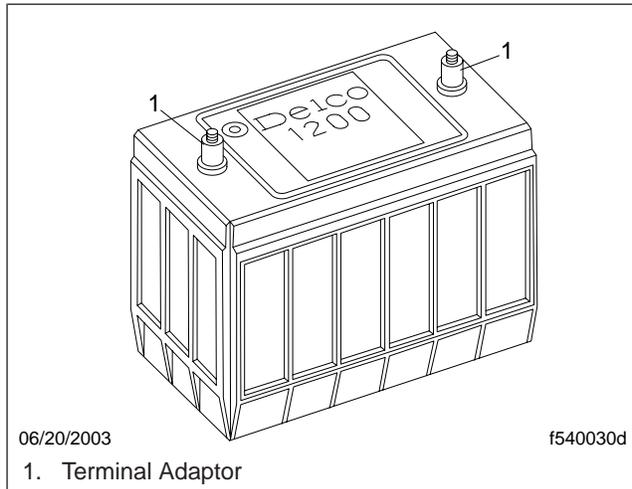

Fig. 3, Sealed Battery
3. Connect the tester leads to the battery terminals following the tester manufacturer's instructions. Batteries with sealed terminals require adaptors to provide a place for attaching the tester's leads. See **Fig. 3**.